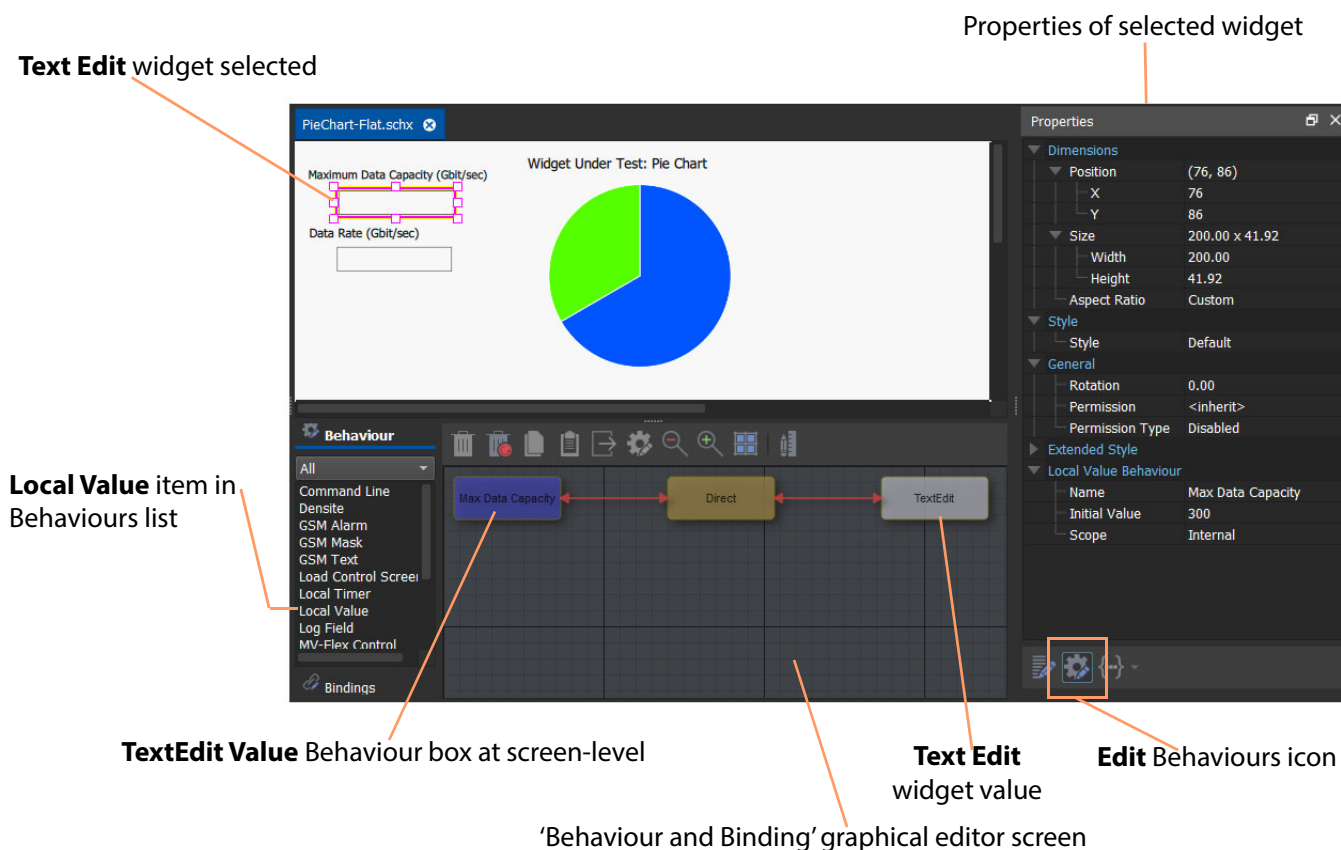

Fig. 3-7: Setting Up Behaviours
- 2 Select the first **Text Edit** widget and click the **Edit** Behaviours icon. The ‘Behaviour and Binding’ graphical editor is shown in the lower half of the schematic editor area. See Figure 3-7.
- 3 Click on the **Local Value** item in the Behaviours list. This places a **TextEdit Value** Behaviour box onto the graphical editor screen. See Figure 3-7.